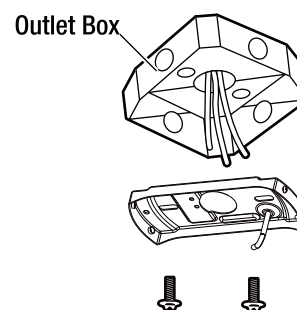

Figure 8
- Secure the mounting plate to the ceiling outlet box as shown in Figure 8 by using two screws and washers (not provided). Make sure the mounting plate is level. You may need to insert additional washers (not provided) between the outlet box and the mounting plate to make it level.